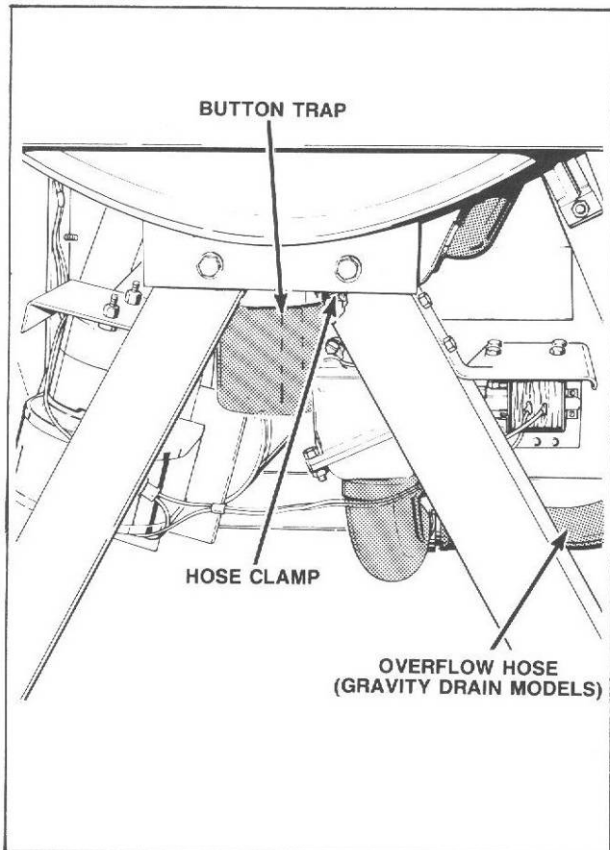

Figure 34
- k. Remove button trap and loosen hose clamp on tub outlet, *Figure 34*.
- l. Gravity Drain Models: Disconnect overflow hose from drain hose tee, *Figure 34*.